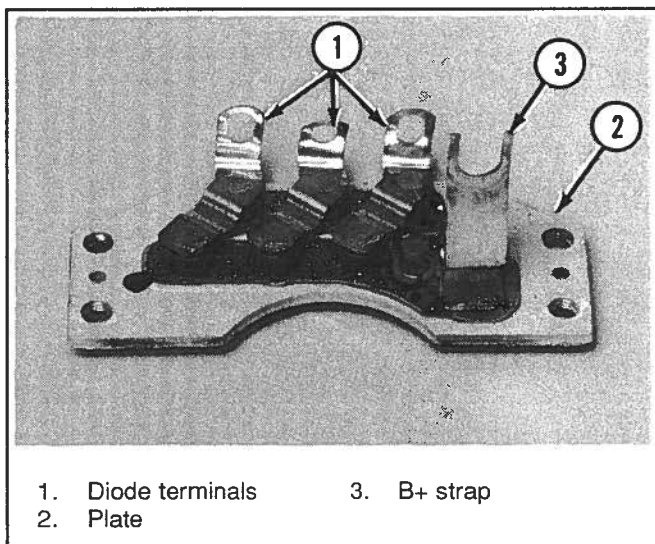

Figure 6-78. Testing Rectifier Bridge
- a. Using an ohmmeter, check for continuity from each of three terminals (1) (Figure 6-78) to plate (2).